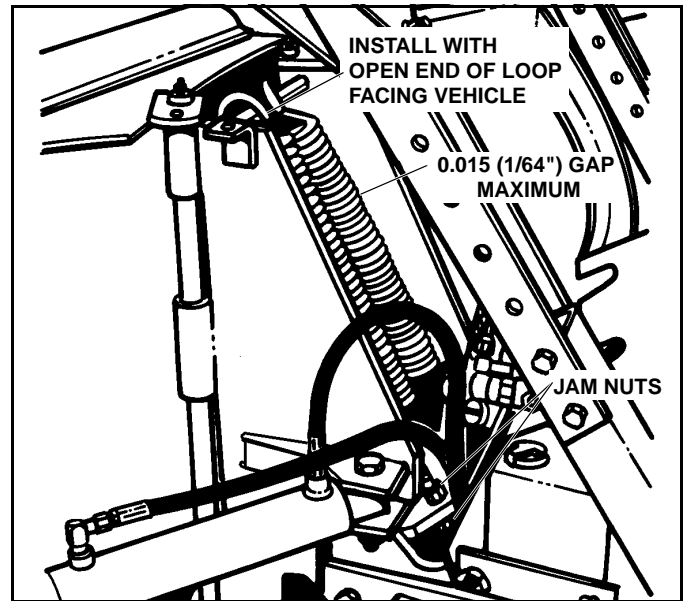

Figure 1-19
3. Check to make sure that the spring is installed as illustrated with open end of top loop facing vehicle. (See Figure 1-19)
4. Using a 15/16" socket wrench through the holes in the bottom plate of the main frame, loosen the two (2) 5/8" nuts on the trip spring eyebolts. (See Figure 1-19).